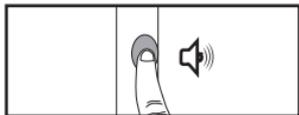

Figure 16.1; Press and Hold Programming Button
Press and hold THIS E-Wand's PROGRAMMING BUTTON (b) again until you hear a SINGLE BEEP (1) [Fig. 16.1]. You have now completed linking your E-Wands and have created a Twist Group.